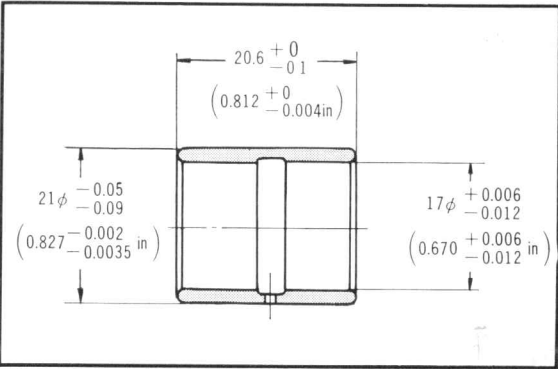

Figure 3-67. Clutch center guide
- (1) Clutch center guide. (Fig. 3-67)